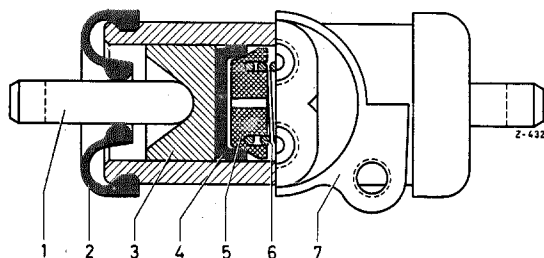

Fig. 42 — 7/2
7. Slide the stop spring (2), the cup expander (3), a new cup (4), and the piston (5) into the bore of the brake wheel cylinder (1).
Press on the rubber boot (7) and the metal boot (6); then install the actuating pin (8) (see Fig. 42—7/1).
Note: In order to prevent the piston and the cup from falling out after reassembly, it is advisable to put a Piston Clamp 120 589 03 31 on the brake wheel cylinder (see Fig. 42—7/3).
9. Remove the actuating pins (1) and the two rubber boots (2) (Fig. 42 — 7/2).